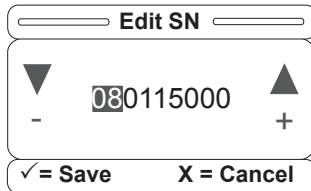

Figure S-26
27. Once the bed up/down lock button is pressed, the highlighted sections will change as indicated above in Figures S-26, 27, 28 and 29. Hold down “Enter” on the footboard panel for two seconds to save the serial number or press “Exit” to cancel the operation.